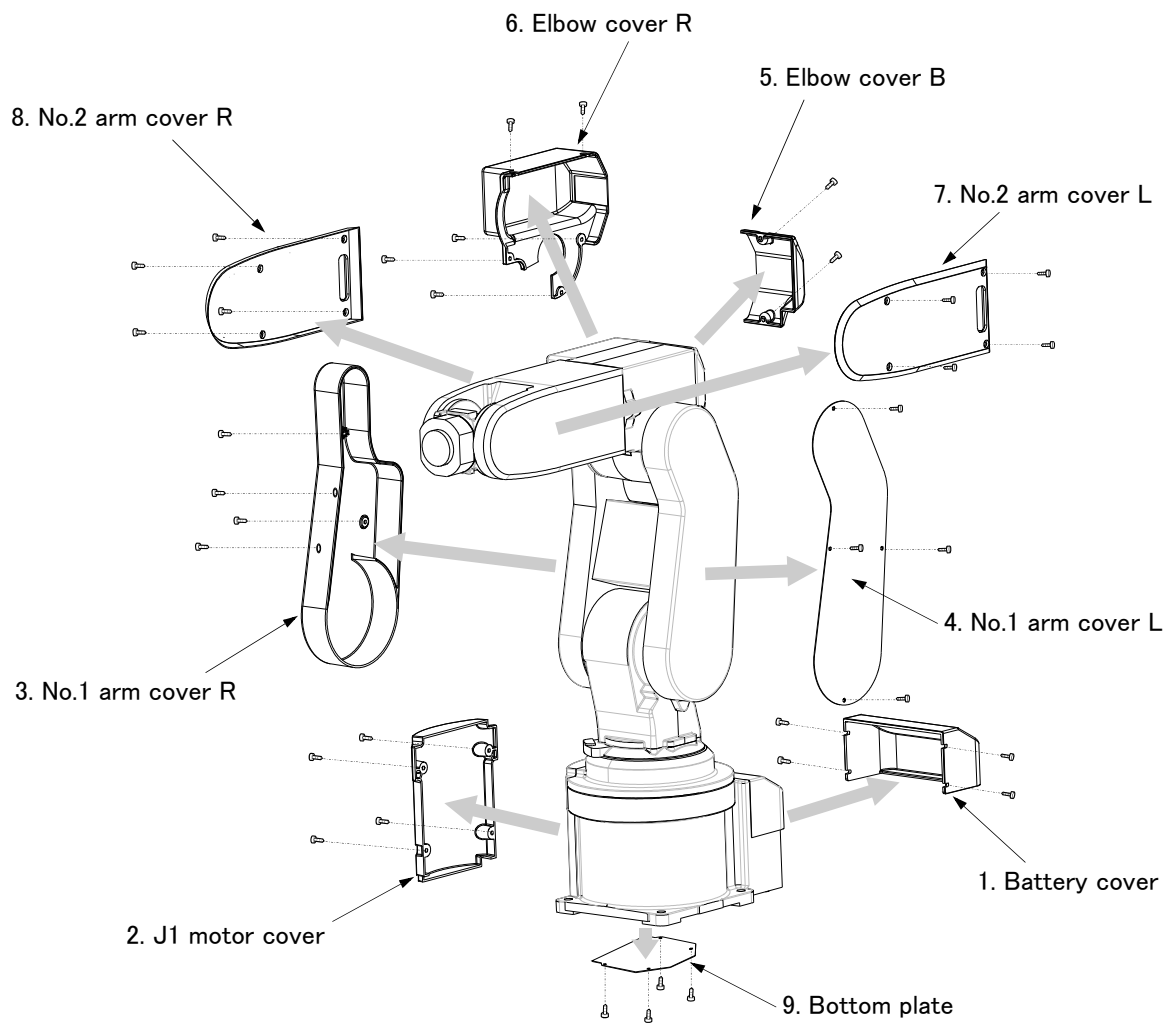

Fig.5-3 : Installing/removing the cover
- (1) Each cover's names and installation screw are shown in Fig. 5-3. Refer to Fig. 5-3 and remove the cover.
- (2) There are some covers that may be difficult to remove due to the robot posture. In this case, change the robot posture with jog operation, and then remove the cover.
- (3) When attaching the cover after maintenance and inspection, use the detaching procedure in reverse.
The part No. and symbols in Table 5-3 correspond to Fig. 5-3.